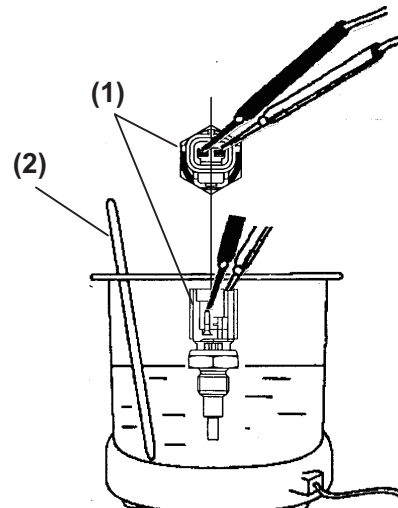

Figure 8-10
1. Inspect the water temperature sensor to make sure that it is properly operating. As shown in the following figure, connect an electric resistor to the coupler of the water temperature sensor (**Figure 8-10, (1)**).